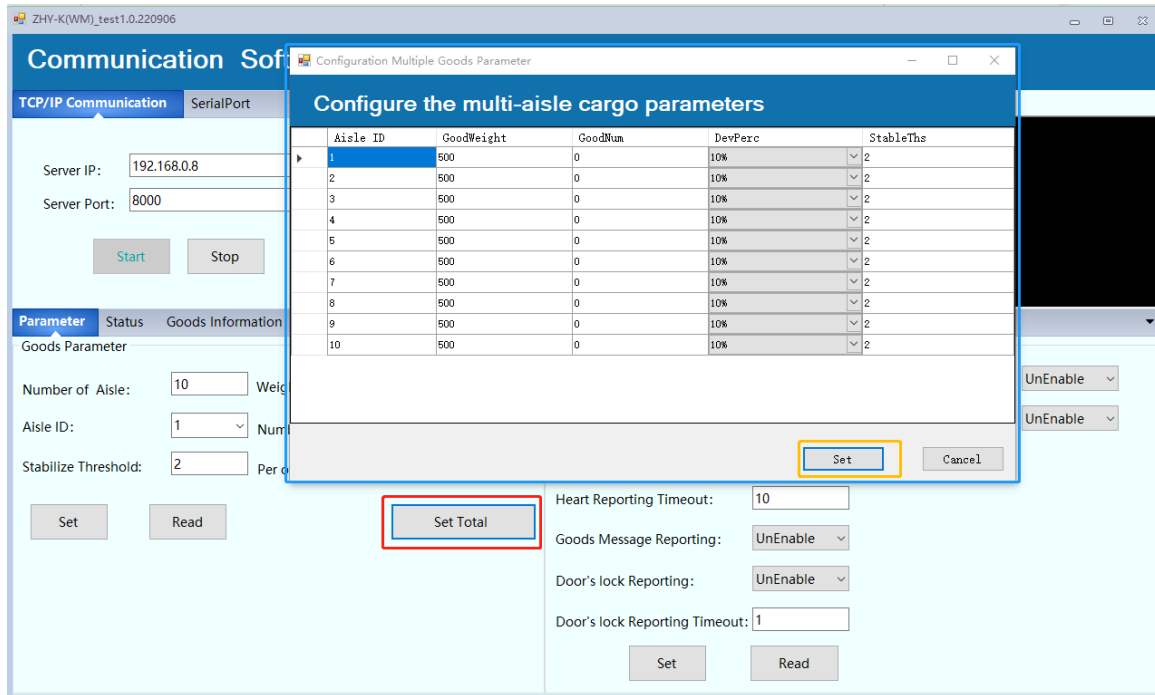
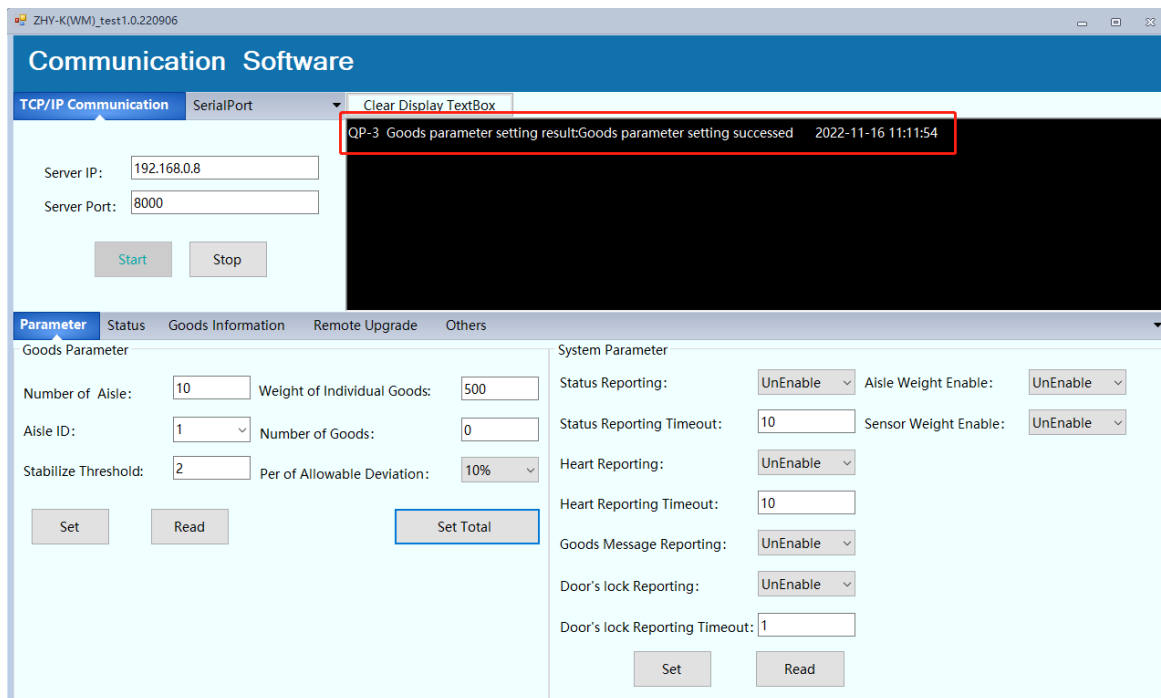

Figure 4.6 Set multiple aisle UI
Figure 4.7 Set multiple aisle received message UI
- C) To set multiple channels goods parameters, click the 'Set Total' button to open the window of multiple aisle Cargo Parameter and input the parameter that you need. Then click 'Set' in Configuration Multiple Goods Parameters as shown in Figure 4.6. The result will be shown in the message display window as in Figure 4.7.
If the set is successful, the result will be shown in 'Display Textbox' window as Figure 4.7.